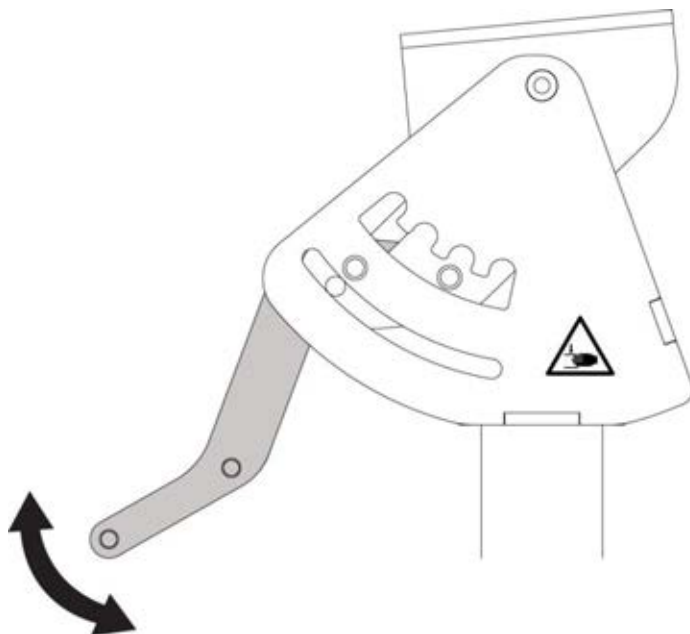

Figure 10 Release the Dispenser Head Angle Adjuster Handle
3. Release the **Dispenser** Head Angle Adjuster Handle when the preferred angle is reached (refer to Figure 10).